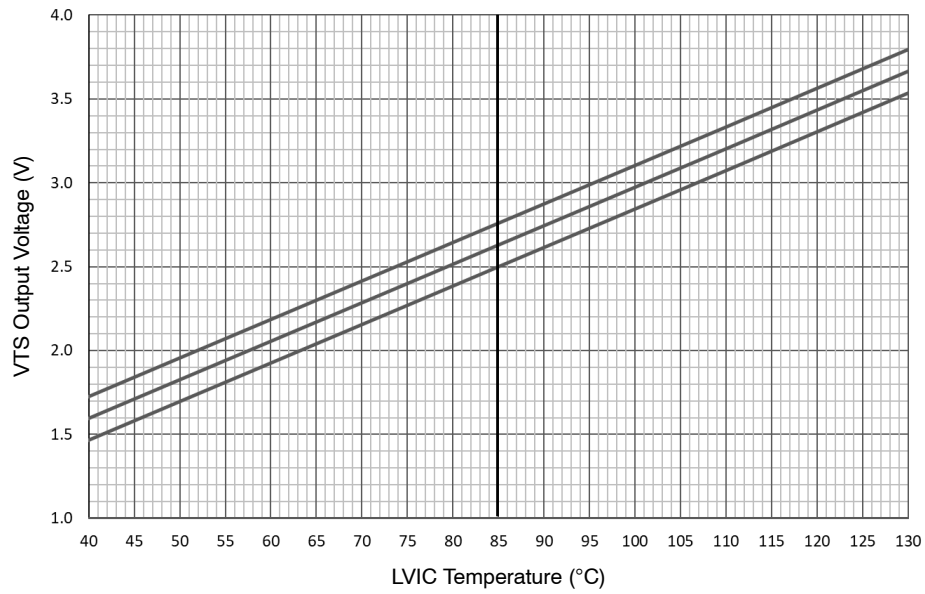
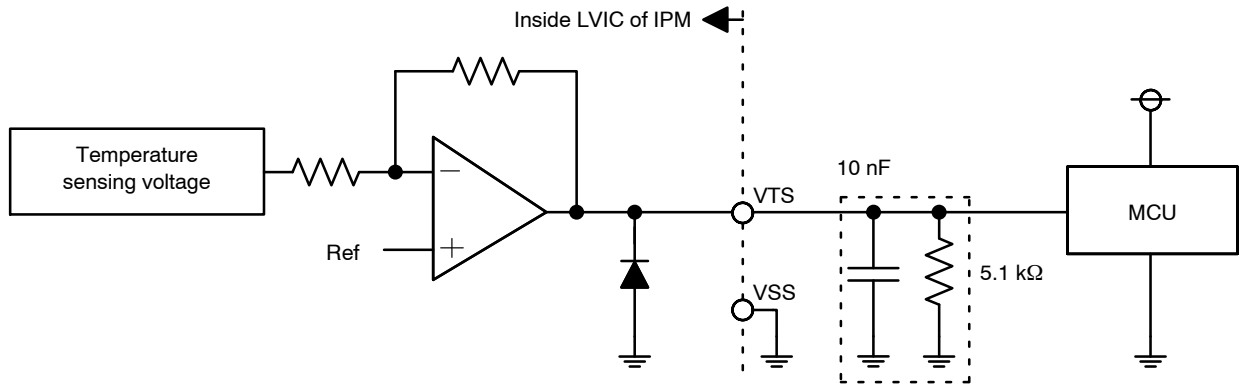

Figure 4. Temperature of LVIC vs. VTS Characteristics
Figure 5. Internal Block Diagram and Interface Circuit of VTS
- TLVIC is the temperature of LVIC itself. VTS is only for sensing temperature of LVIC and cannot shutdown IGBTs automatically. The relationship between VTS voltage output and LVIC temperature is described in *Figure 4*. It is recommended to add 5.1 kΩ pull down resistor between VTS and VSS (Signal Ground) as described in *Figure 5* for linear output characteristics at low temperature. Refer to the application note for usage of VTS.
To avoid malfunction, the wiring of each input should be as short as possible (less than 2~3 cm). Each capacitor should be mounted as close to the pins of the product as possible. VFO output is open-drain type. This signal line should be pulled up to the positive side of the MCU or control power supply with a resistor that makes IFO up to 1 mA. Please refer to Figure 5.